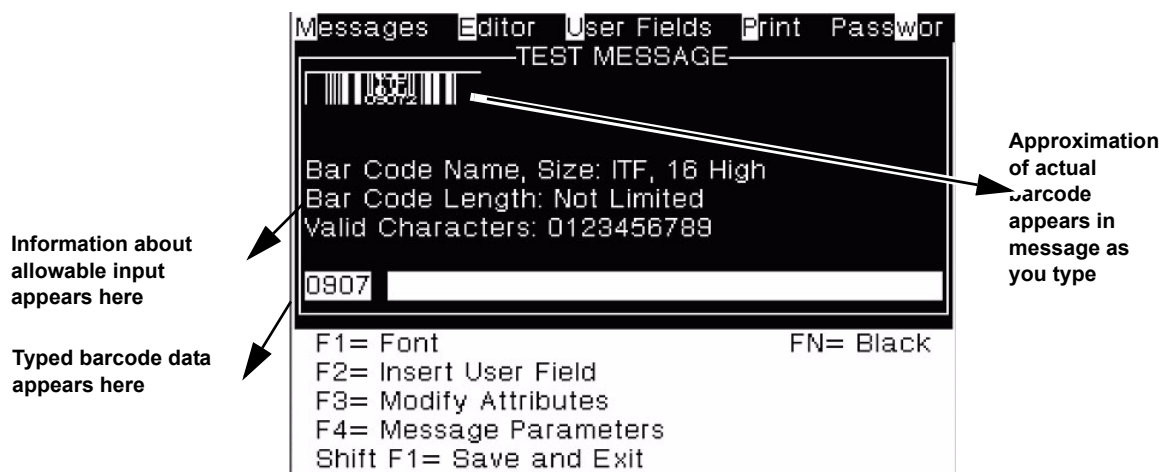

Figure 5-14: Message Editor Displaying Barcode Information
- 14 Type the barcode data at the cursor. A graphical representation of the barcode now appears in the Message Editor window, along with some helpful information about the allowable input for the selected bar code type (Figure 5-14).